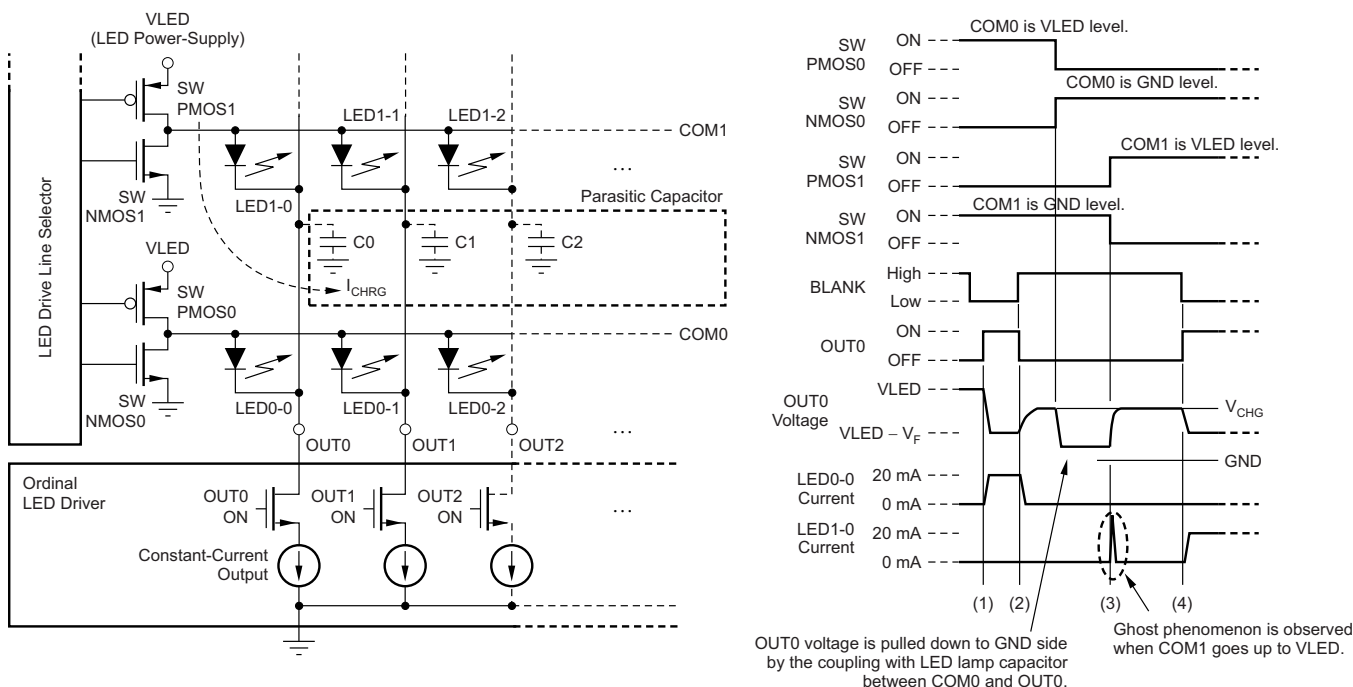

Figure 23. LED Ghost-Lighting Phenomenon Mechanism
The internal pre-charge FET prevents ghosting of multiplexed LED modules. One cause of this phenomenon is the parasitic capacitance charging current of the constant-current outputs (OUTn) and PCB wiring connected to OUTn through the LED. One of the mechanisms is shown in Figure 23.
In Figure 23, the constant-current driver turns LED0-0 on at (1) and off at (2). After LED0-0 is turned off, the OUT0 voltage is pulled up to VCHG by LED0-0. This OUT0 node has some parasitic capacitance (such as the constant-current driver output capacitance and the board layout capacitance shown as C0-2). After LED0-0 turns off, SWPMOS0 is turned off, SWNMOS0 is turned on for COM0, and COM0 is pulled down to GND. Because there is a parasitic capacitance between COM0 and OUT0, the OUT0 voltage is also pulled down to GND. Afterwards, SWPMOS1 is turned on for the next common line (COM1). When SWPMOS1 turns on, the OUT0 voltage is pulled up from the ground voltage to VLED – VF. The charge current (ICHRG) flows to the parasitic capacitor (C0) through LED1-0, causing the LED to briefly turn on and creating a ghosting effect of LED1-0.